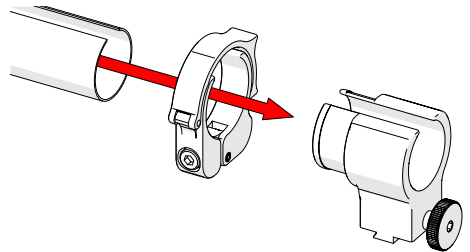

Fig. 64 - Slide tube around mount
2. Slide the clamp around the tube first and then slide the tube around the outside of the cable management dovetail mount (Fig. 64). Align the zipper opening and the cable management dovetail mount opening.